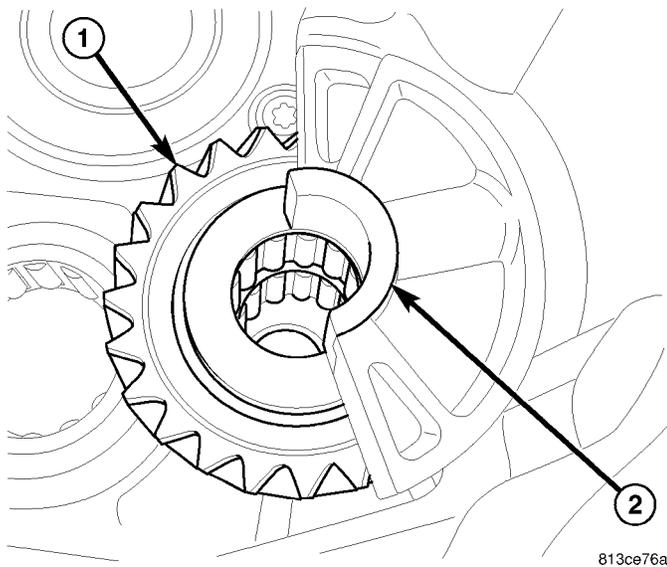

Fig. 46 IDLER SHAFT SUPPORT
(3) Remove reverse idler gear (1) (Fig. 46) shaft support (2).